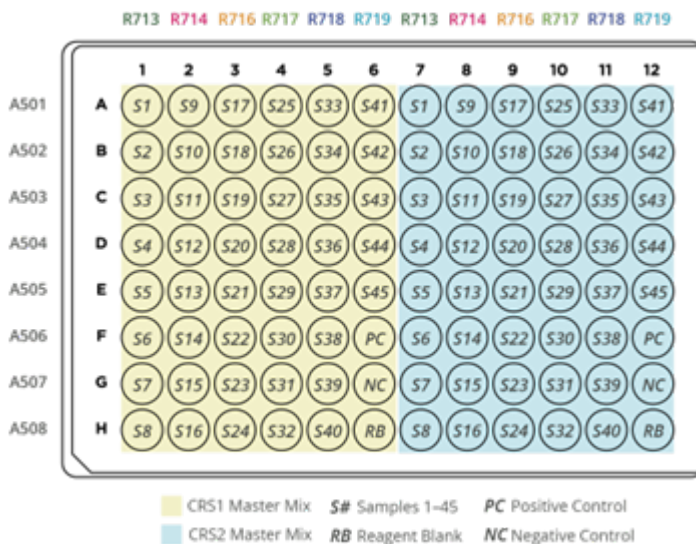

Figure 4. Example plate setup for 16 samples.
- a. Divide the plate into 2 even sections depending on the number of samples. See Figure 4 for an example.